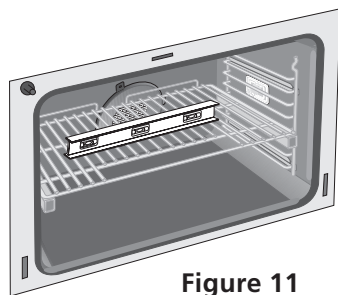

Figure 11
3. Check if the range is level by installing an oven rack in the center of the oven and placing a level on the rack (Figure 11).